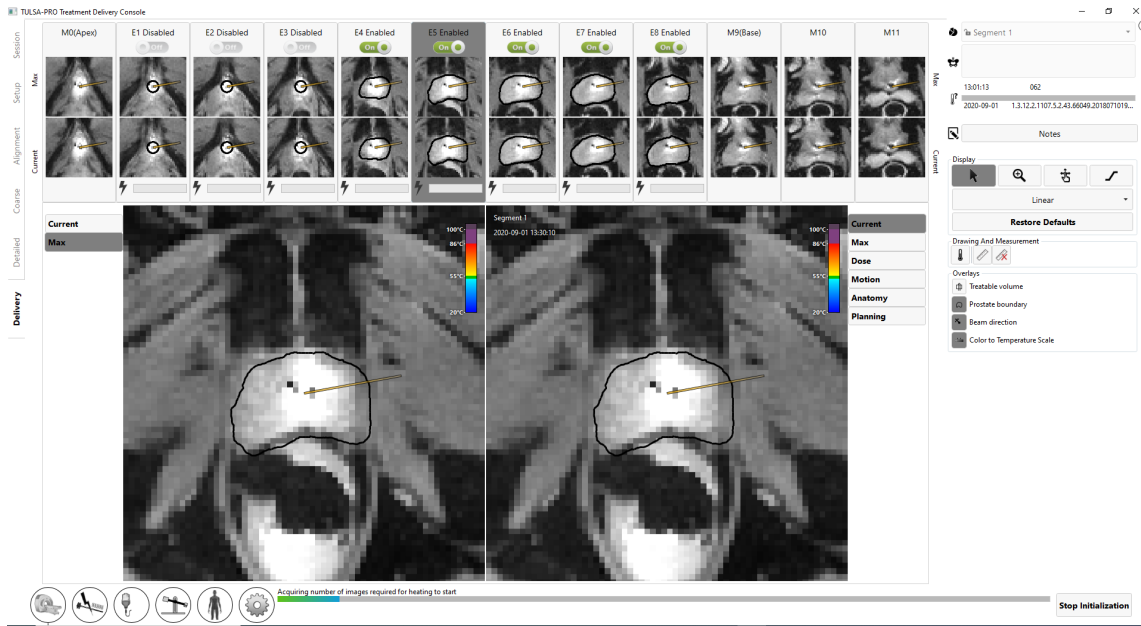

Figure 42: Treatment Initialization state
2. Radiologist: Click **Start treatment** on TDC. It will prompt you to verify the core body temperature using an external temperature measurement device before proceeding (10). Enter the temperature in degrees Celsius and click **Confirm**. The TDC will go into **Treatment Initialization** state and is now ready to receive thermometry images (Figure 42).